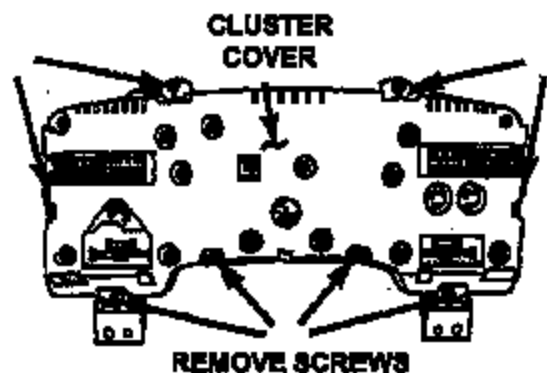

Figure 6
13. Remove the twenty-two (22) screws from the rear cluster cover (Figure 6).
22. Install the twenty-two (22) screws into the rear cluster cover (Figure 6). Tighten the screws securely.